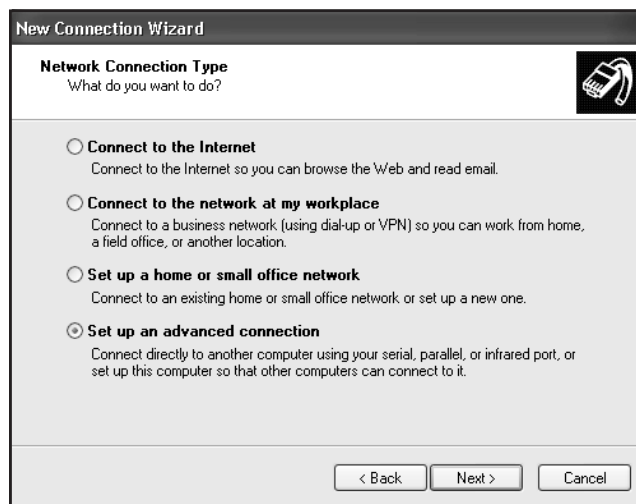

Figure 189 Selecting the Network Connection Type
5. Select “Setup and Advanced Network Connection” as shown in Figure 189. Click on **Next**.